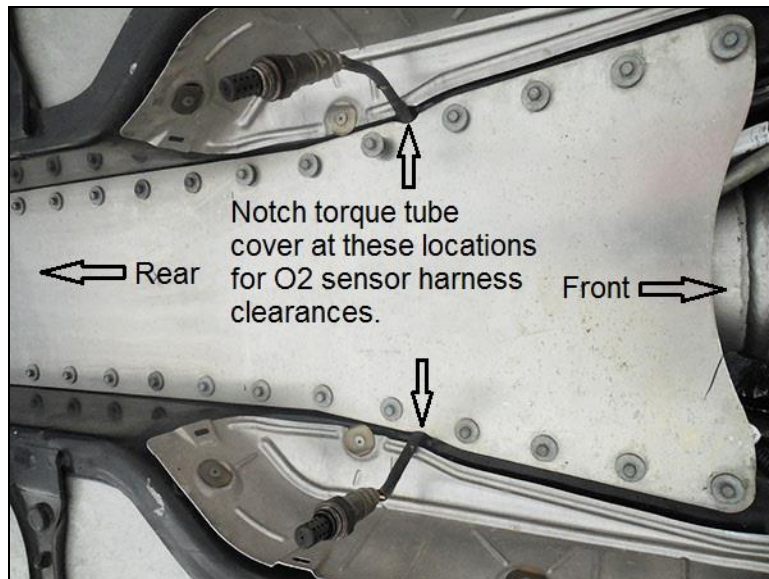

Figure 3
3. Mark the torque tube tunnel cover at the locations shown in **Figure 3**, outlining a penny or dime for reference works well.